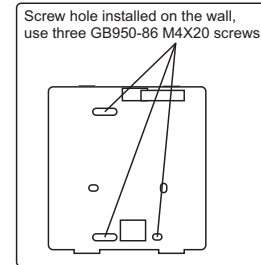

Fig. 4 — Mounting Back Plate
7. Attach the back mounting plate directly over the opening in the wall, using 3 screws, as shown in Fig. 4.